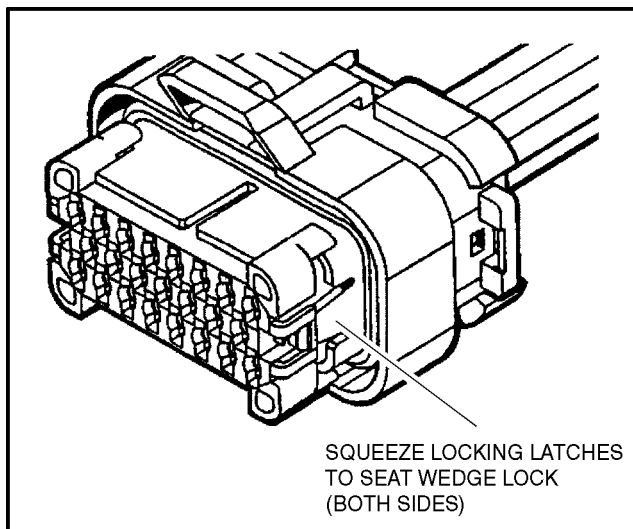

Figure 7-12. Connector Assembly Figure 3
3. After all required contacts have been inserted, the wedge lock must be closed to its locked position. Release the locking latches by squeezing them inward (See Figure 7-12.).